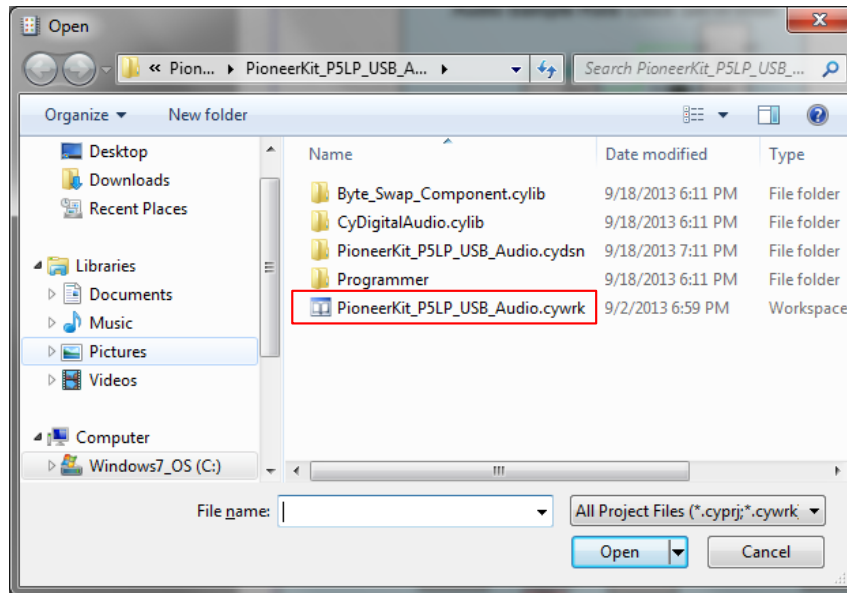

Figure 4: Open Project Dialog box - PSoC Creator
- Open PSoC Creator 2.2 SP1. Select File -> Open -> Project / Workspace. See Figure 4.